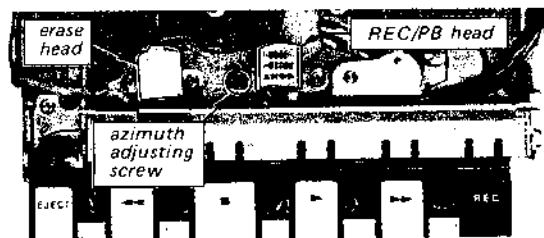

Fig. 4-3 Azimuth adjusting screw
2. Adjust the azimuth adjusting screw (See Fig. 4-3) on the record/playback head for maximum output on the VTVM, and an in-phase indication on the oscilloscope as shown in Fig. 4-4.